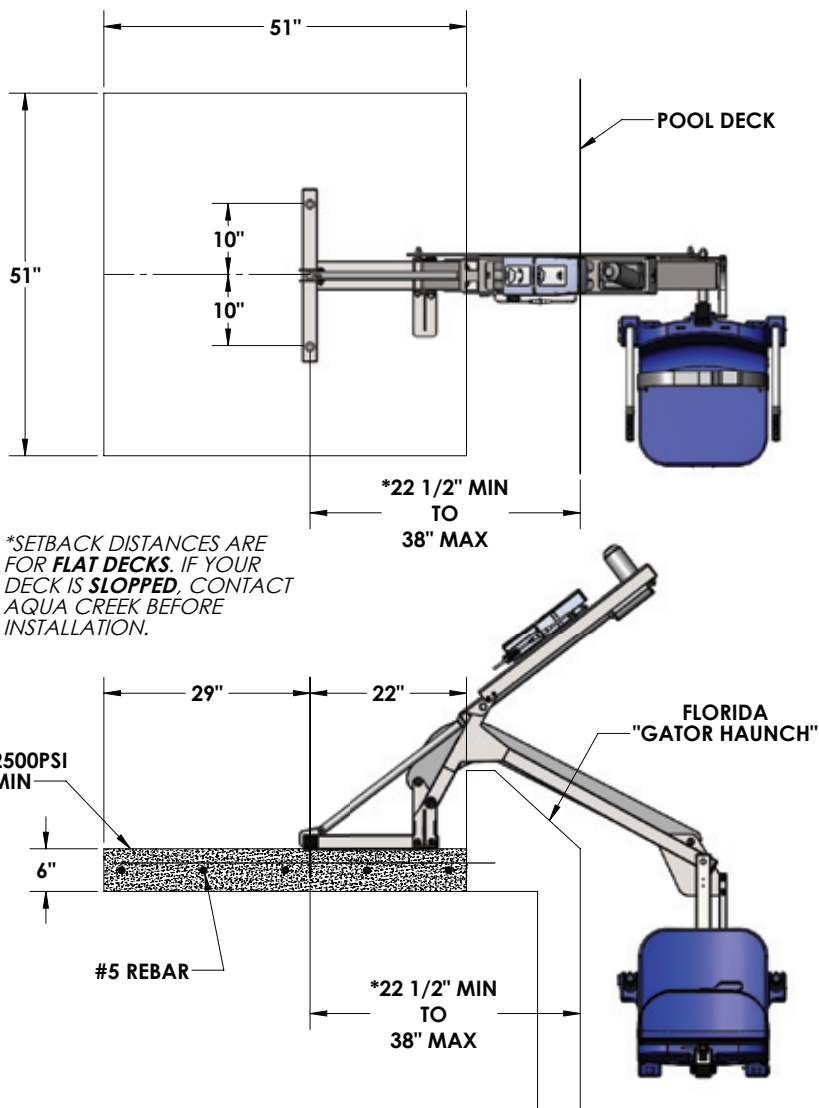

FIGURE 6
3. Set the anchor system in place. For ADA compliance and clearance, make sure the center of the large anchor jig plate holes are between 22.5 and 38 inches from the pool's edge. SEE FIGURE 6